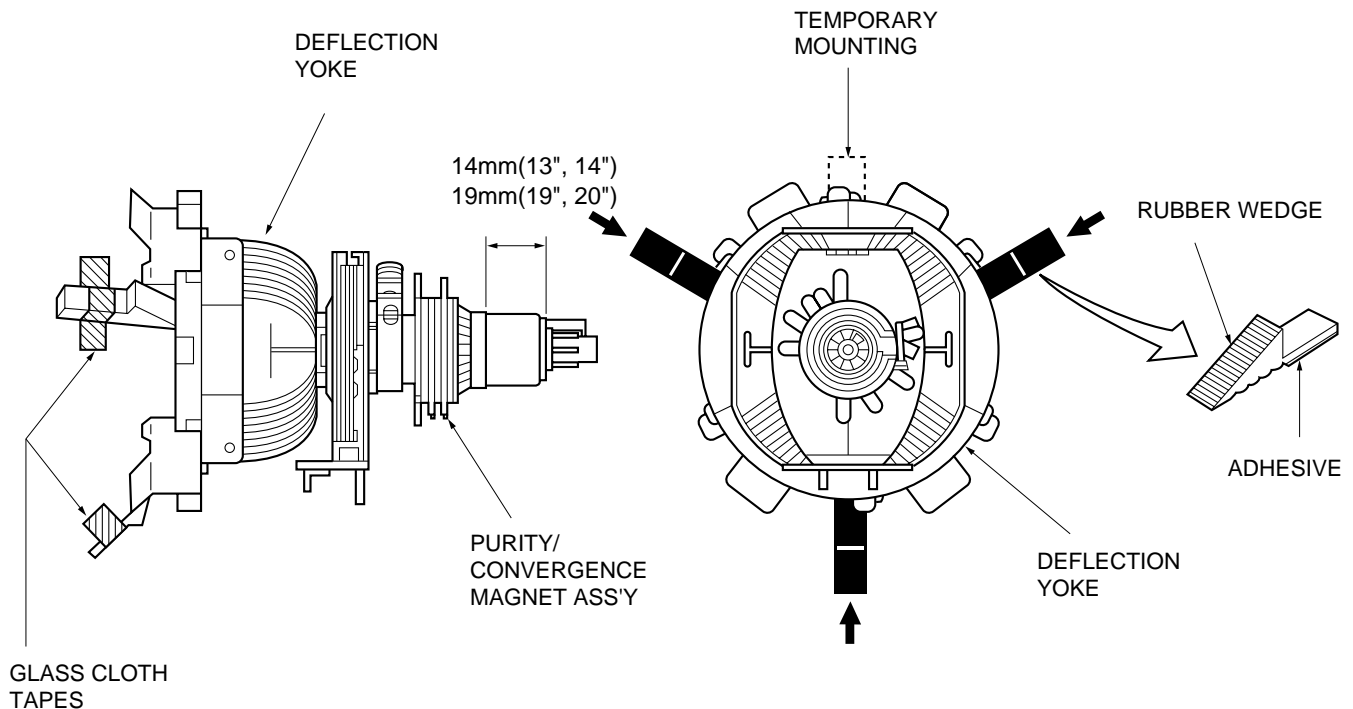

Figure 1.
Refer to figure 1.
2. Temporarily put a wedge as shown in figure 1. (Do not remove cover paper on adhesive part of the wedge.)